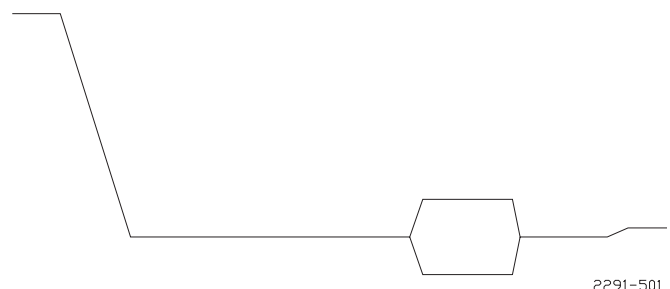

Figure 5-4. Blanking Level Flatness
- Adjust R110 and R105 until a sync-free waveform as shown in Figure 5-4 is obtained.